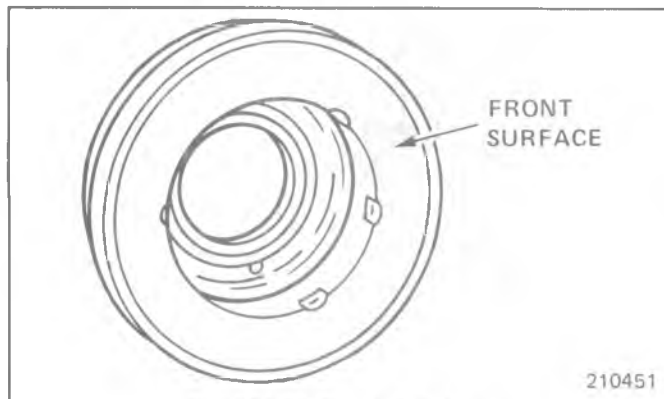

Fig. 1C1-21 Clutch Coil Asm.
3. Slide the pulley rim off the Rotor and Hub assembly. The Pulley Rim and the Clutch Coil (Fig. 1C1-21) are replaceable at this point.